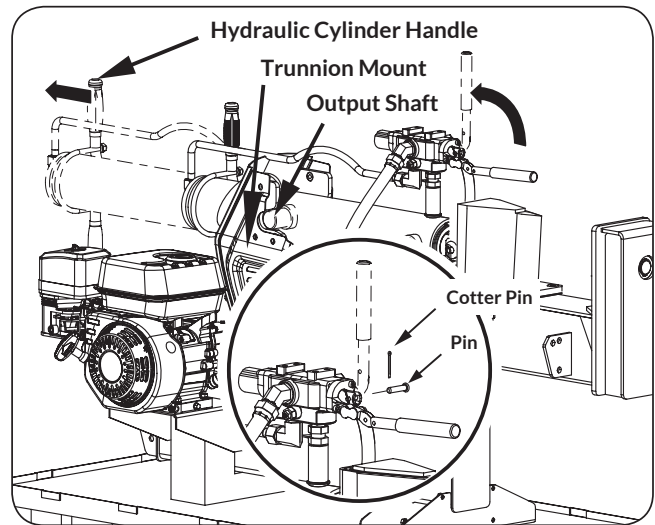

Figure 3
2. The control handle is shipped hanging from the valve on the handle link. Remove the pin and cotter pin from the control handle. Move the control lever to the vertical Neutral position (shown in circle on illustration **Figure 3.**)